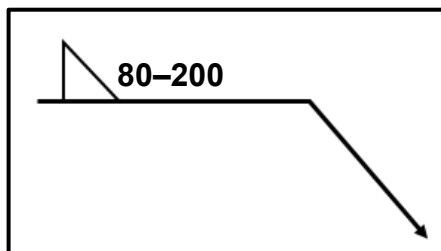

FIGURE 4.1
- 4.1 What does the '80' on the weld symbol in FIGURE 4.1 below represent?